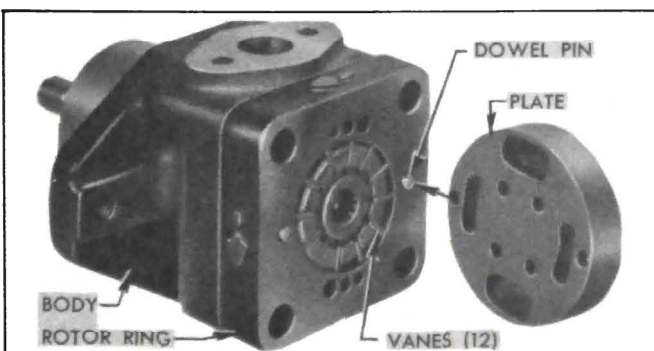

Figure 8-37—Pressure Plate, Ring, Rotor and Vanes
4. Remove the pressure plate which fits over two dowel pins extending through the rotor ring, then remove the ring, O-ring seal, and the rotor and vanes. See figure 8-37.
5. The rotor ring must be installed over the dowel pins with the embossed arrows pointing in a *counterclockwise* direction as viewed from *rear end* of pump. See figure 8-37. **NOTE:** *When viewed from the front or shaft end of pump, the arrows on ring point in a clockwise direction, which is the direction of rotation of pump shaft.*